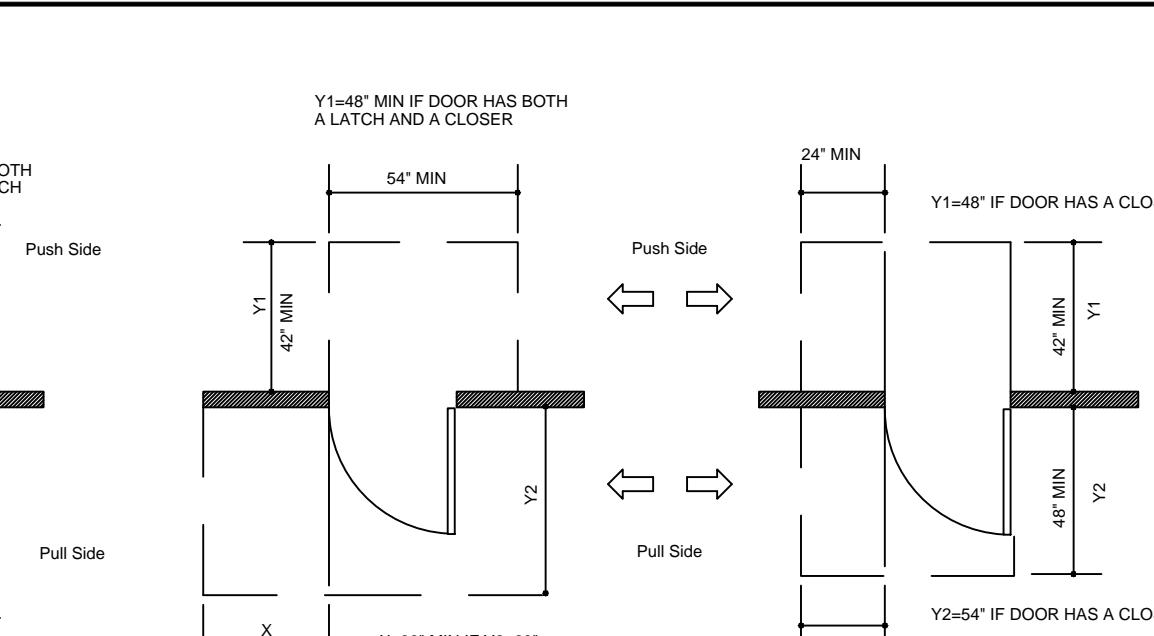

FIGURE 25
3. MINIMUM MANEUVERING CLEARANCES AT DOORS THAT ARE NOT AUTOMATIC OR POWER-ASSISTED SHALL BE AS SHOWN IN FIG. 25.